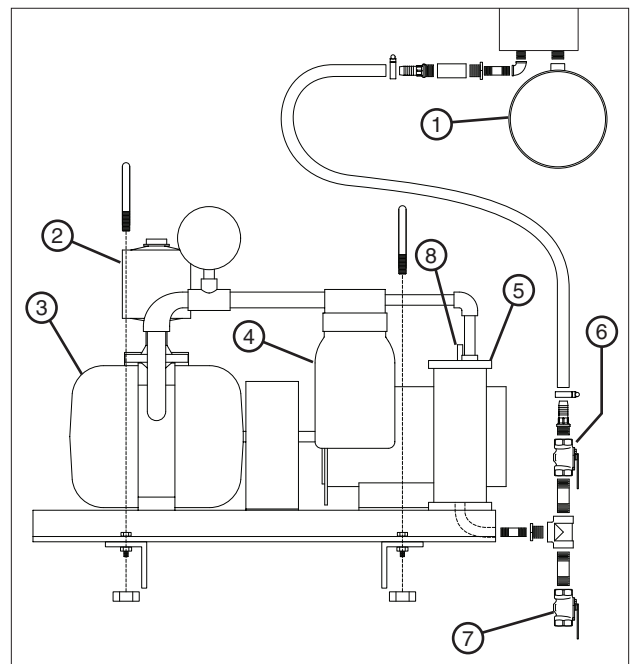

Figure 65-2 1. Suction Inlet Pipe 5. Water Trap
2. Depress the manual plunger on top of the water trap to allow water to draw-down. See figure 65-2.
3. If necessary, open the drain cock valve for full drainage. See figure 65-2.